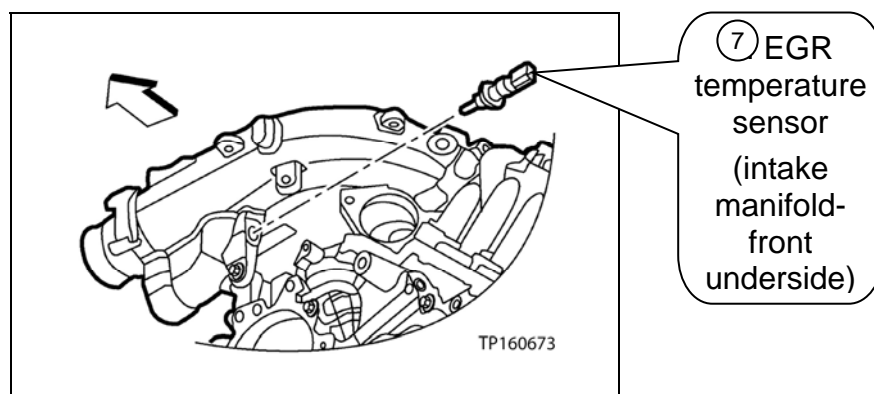

Figure 2D
- k. EGR temperature sensor (page 54, Figure 2D, # 7): If oil residue is found, replace it.